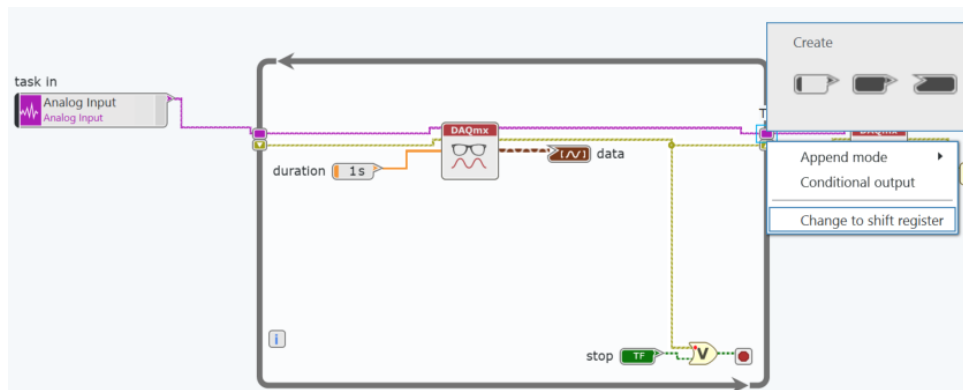

Figure 6-8 Tunnels on the border of a while loop can be changed to a shift register to pass data from one iteration of the loop to the next.
- b. Repeat for error wire tunnels. This will create a new input terminal on the left side of the while loop that you will need to wire to the error input of DAQmx Read (See Figure 6-8).